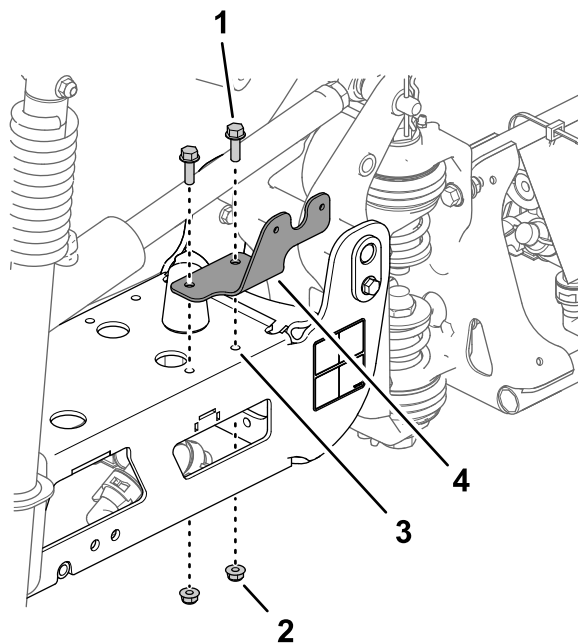

Figure 56
1. Align the holes in the taillight bracket with the 2 holes 8 mm (5/16 inch) in the truss of the center spray section (Figure 56).
2. Assemble the taillight bracket to the truss (Figure 56) with 2 flange head bolts (5/16 x 1 inch) and 2 flange locknut (5/16 inch).